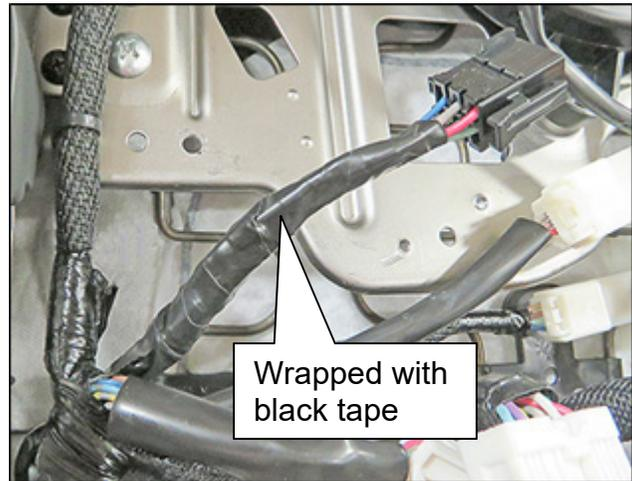

Figure 27
32. Completely wrap the newly joined harness with electrical tape as shown in Figure 27.